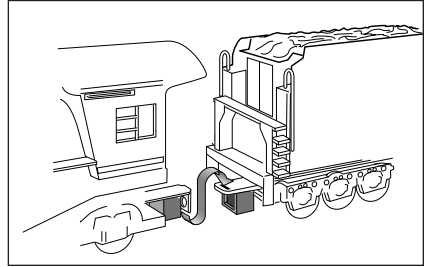

Figure 1. Drawbar connection
**With track power OFF,** connect the drawbar between locomotive and tender as illustrated in Figure 1. That's all you have to do with Lionel's Wireless Tether, an infrared communication system that eliminates the plugs and wires of the past.